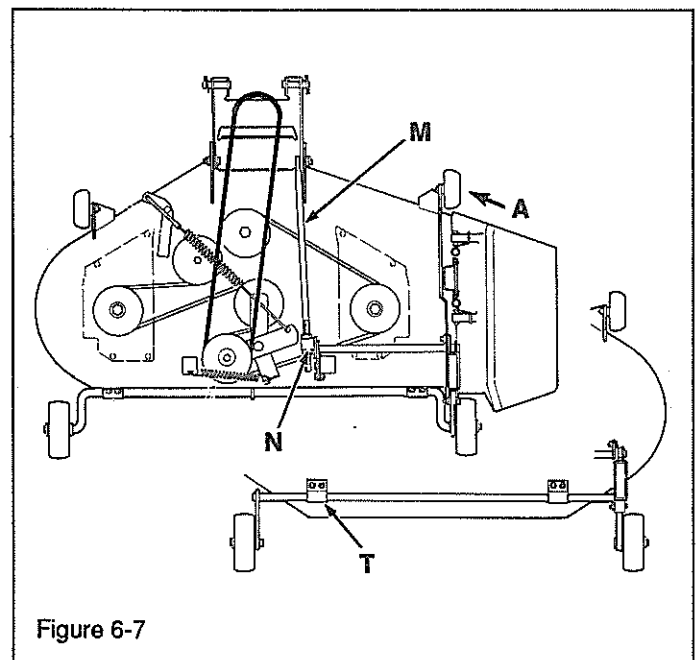
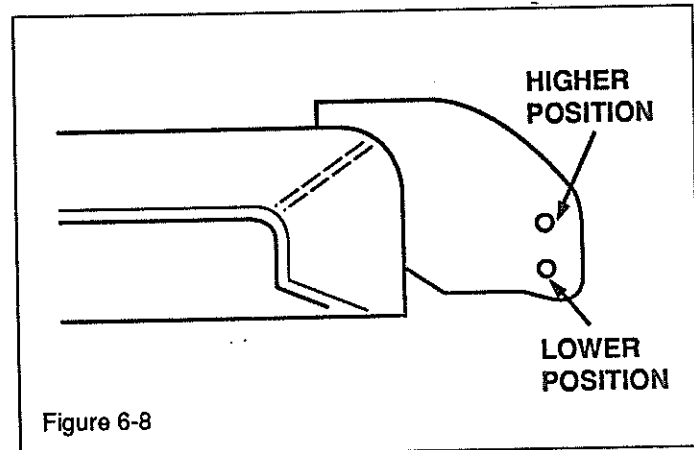

Figure 6-7
Figure 6-8
- Turn blades so they align lengthwise with the tractor. Measure the distance from the front edge of the blades to the ground and from the rear edge of the blades to the ground. Both measurements should be equal. If not, adjust length of rod (M, Figure 6-7) at pivot (N).
- If mower is not level, loosen nuts at left gage wheel bracket (T, Figure 6-7). Adjust bracket height and re-tighten nuts.
- If cutting height is set at 3 inches or higher, move the anti-scalp wheels (A, Figure 6-7) to the lower position as shown in Figure 6-8.
- If cutting height is set less than 3 inches, move the anti-scalp wheels (A) to the higher position.